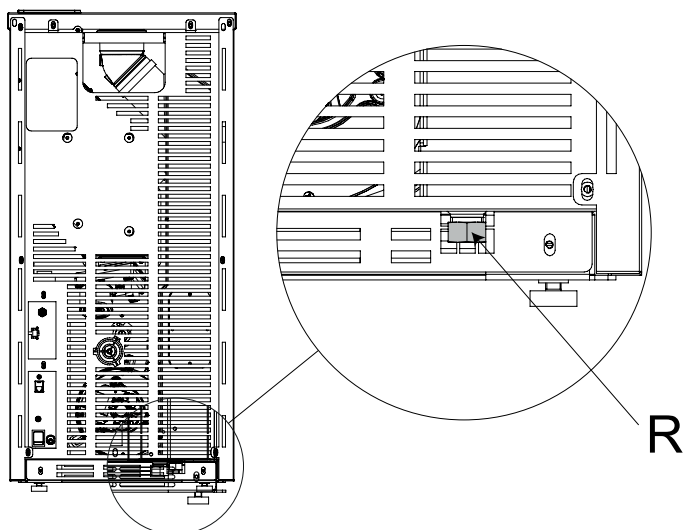

fig. 5.12
- As an additional safety measure, there is a threaded fitting with locking cap designed to connect the condensate drain pipe, if an unlikely event may require such measure (Fig. 5.12).
As an additional safety measure, there is a threaded fitting with locking cap "R" designed to connect the condensate drain pipe, if an unlikely event may require such measure (Fig. 5.12).